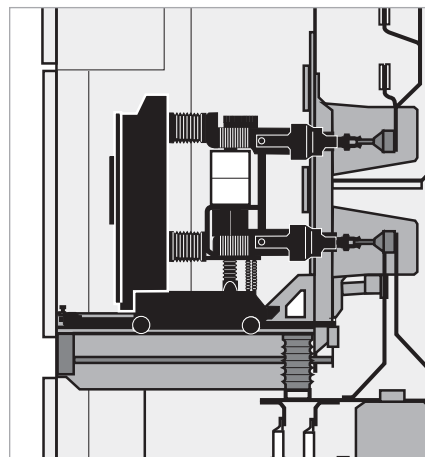

Fig. 38
3. Check position of the truck (Fig. 38) through the inspection port.